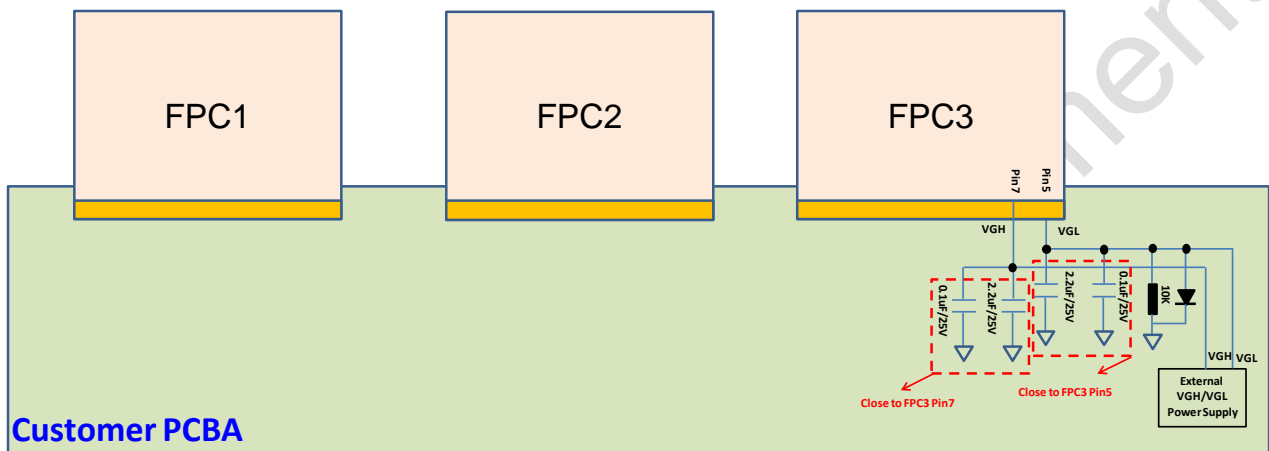

Figure 9: Cascade design with external Power Supply (VGH/VGL)
- (1) The VGH/VGL voltages are provided by external power (Figure 9) ;
- (2) The capacitors of VGH/VGL need to be as close to FPC as possible(Figure 9) ;